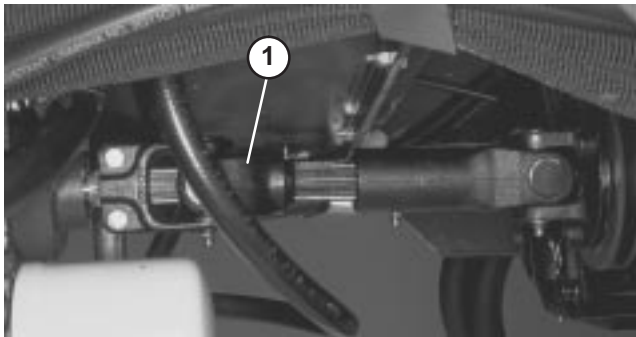

Figure 30
1. Loosen and remove capscrews securing the drive shaft to the engine drive coupler. Loosen capscrews clamping drive shaft to transmission (Fig. 30). Remove drive shaft.
5. When towing is completed, reinstall driveshaft as shown in Figure 30. The splines are designed to allow assembly only when the two halves of the shaft are properly oriented.